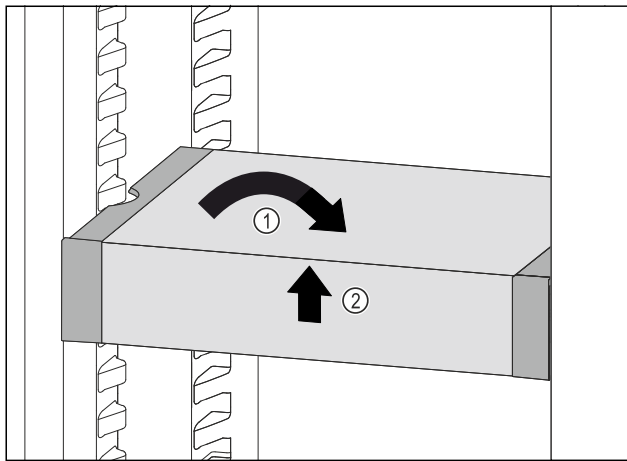

Fig. 124
- Set VarioSafe straight. Fig. 124 (1)
- Lift VarioSafe at the front. Fig. 124 (2)